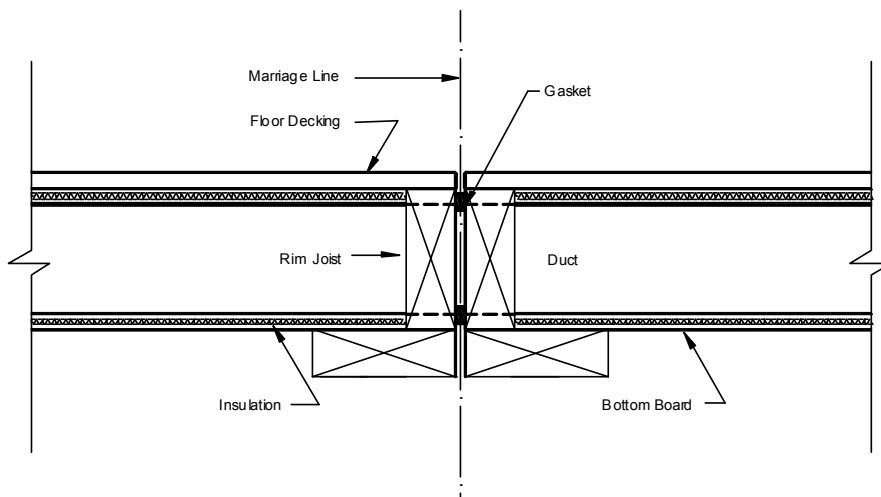

Figure 25. End wall completion
9. **Install gable walls.** Assembled frames or wall studs and sheathing needed for the site assembly of the gable end walls and interior shear wall knee walls (if present) may be provided. Install the gable end walls for each home section as follows (Figure 25):